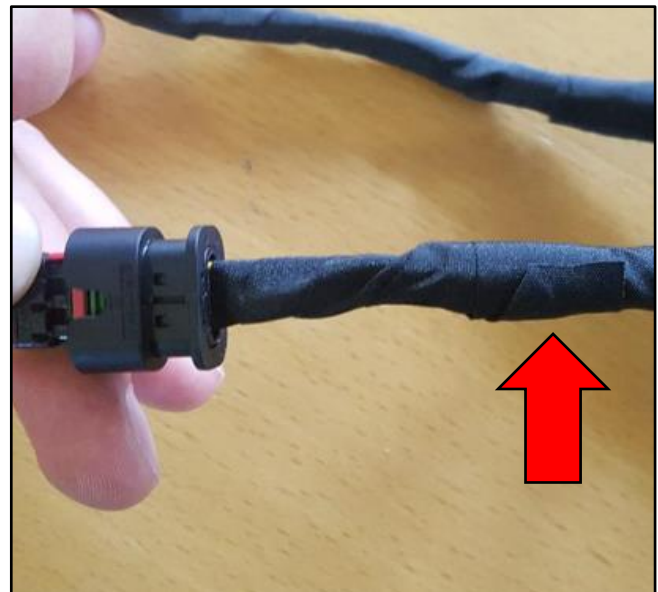

Figure 7
7. Complete the task with two loops of the self-amalgamating tape at the same point on the taped section of the connector wires. (Refer to Figure 7.)
9. Make sure the end of the self-amalgamating tape is applied tightly to the taped section of the connector wires. (Refer to Figure 7.)